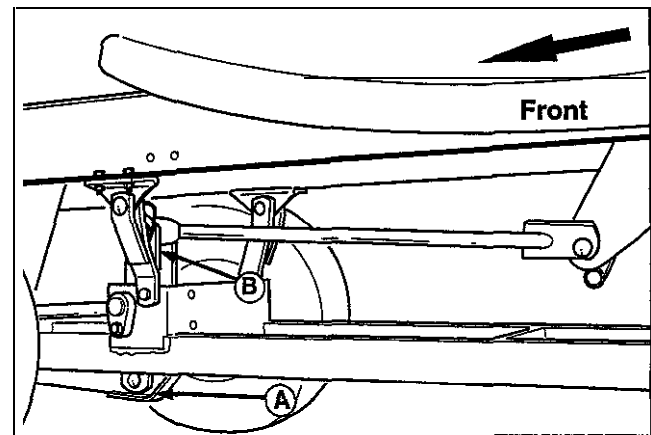

figure 6
6. See figure 6. Attach the sweeper lift arm (A) to the hitch lift arm (B) using a clevis pin and safety clip.